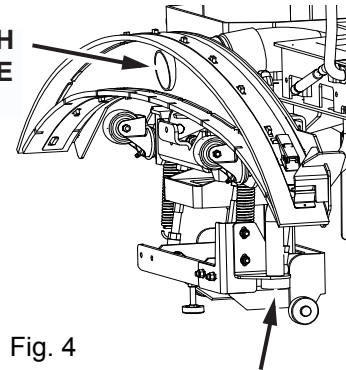

Fig. 4
- Back flush the hopper vacuum hose located under the rear bumper to clear any debris from the vacuum hose. (See Fig. 4)